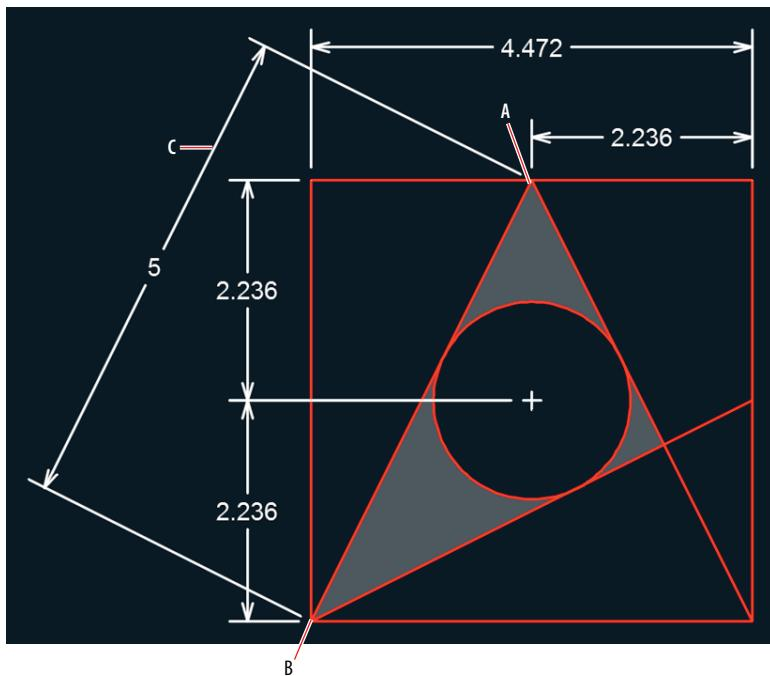

FIGURE 11.15 Adding an aligned dimension
7. Open the dimension menu in the Annotation panel, and select the Aligned tool. Click points A, B, and C shown in Figure 11.15.